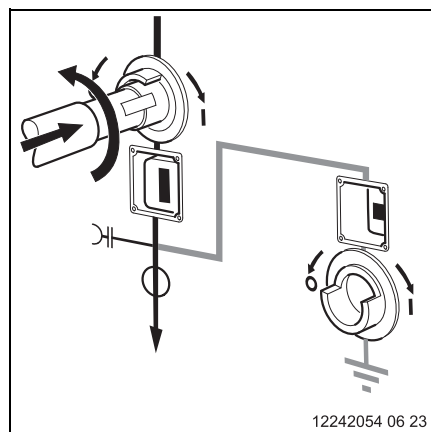

Fig. 58
**4** Switch the disconnecter OFF. Hold the switching lever (bare shaft) depressed to the end stop against spring pressure and turn it anti-clockwise (Fig. 58).